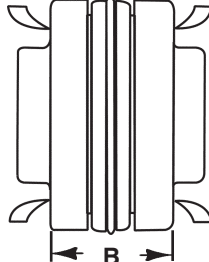

Figure 2-4
2. Determine the maximum (B) and minimum (C) dimensions. Refer to Figure 2-4.